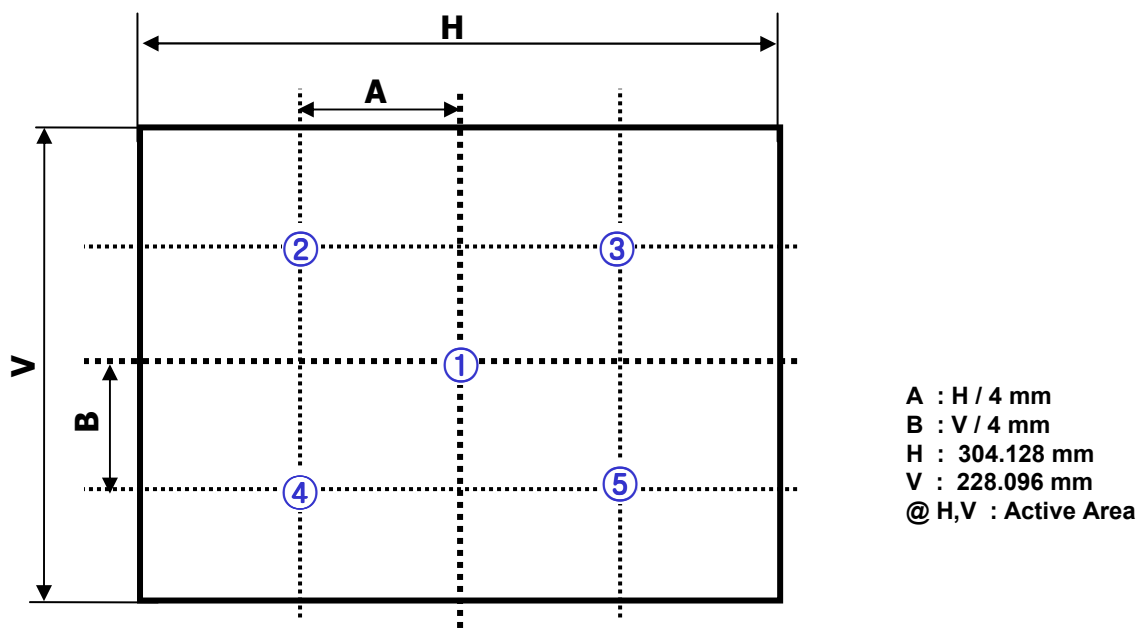

FIG. 2 Measure Point for Luminance
2. Surface luminance is luminance value at center point (1) across the LCD surface 50cm from the surface with all pixels displaying white. For more information see FIG 2.
For more information see FIG 2.